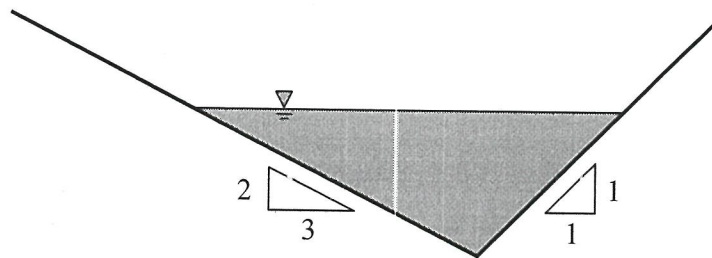

FIGURE Q1 (b)
- Q1** (a) Give **TWO (2)** differences between flow in pipe and flow in open channel. (4 marks)
- (b) A compound channel shown in **FIGURE Q1(b)** carries flow at a rate of  $0.85 \text{ m}^3/\text{s}$  on longitudinal slope 0.003 and Chezy coefficient 55.7. Calculate the depth of uniform flow. (6 marks)